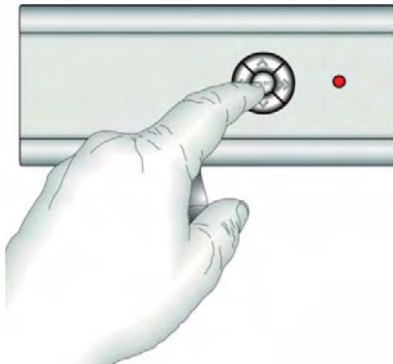

FIG. 2 Press the SELECT button on the front of the Matrix Controller
1. Enter the *Setup* menu from the front of the Matrix Controller, by pressing the **SELECT** button (FIG. 2).